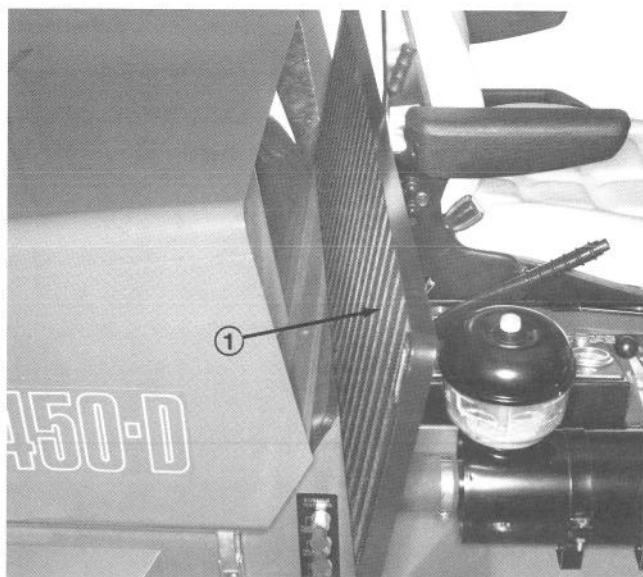

Figure 39
B. Remove front grill and clean it with compressed air (Fig. 39).